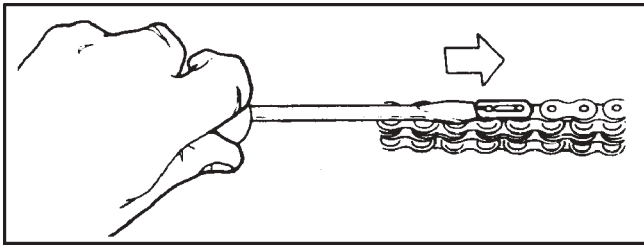
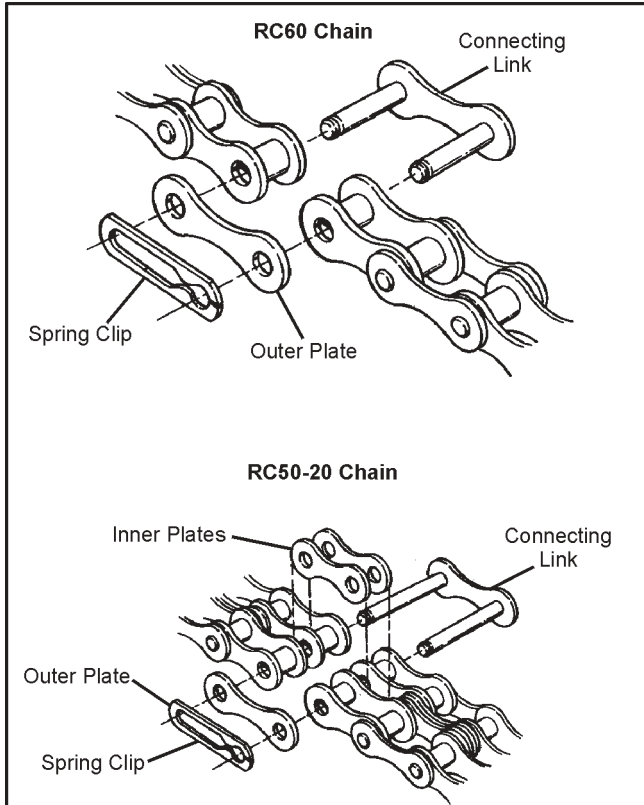

Figure 7-7. Removal of the spring clip
Figure 7-8. Chain connection link components
5. Remove the spring clip from the connecting link as shown in Figure 7-7. Remove the outside plate and tap out the connecting link. The inside plates will be released when the connecting link is removed (Figure 7-8).
2. Pull the ends of the chain together and insert the connecting link as shown in Figure 7-8 and 7-9. When connecting the RC50-2 chain, insert the inside plates before tapping the connecting link into position.
2. Remove the spring clip from the connecting link. Remove the outside plate and tap out the connecting link. As the connecting link is removed, the inside plates will be released (refer to Figure 7-7).
3. Replace the outside plate and spring clip as shown in Figure 7-7.